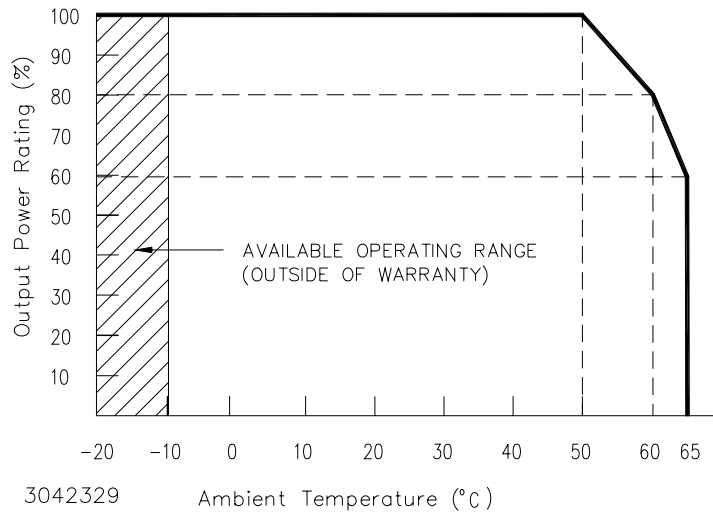

FIGURE 2. POWER RATING VS. TEMPERATURE
<p>(1) Square type. If overcurrent condition continues for approximately 30 seconds, the output is shut OFF. Recovery is by removing and reapplying AC input power, or by reset (open and close) at RC terminal.</p> <p>(2) When overvoltage is detected, output is shut OFF. Recovery is by removing and, after about 40 seconds, reapplying AC input power, or by reset (open and close) at ±RC terminals (no delay).</p> <p>(3) Ripple and noise specifications are within 1.5 times the indicated values for a temperature range of -10 to 0°C. Ripple and noise levels above are satisfied when conditions are 0 to 100% load, 0 to 65°C (derated from 50 to 65°C per Figure 2), and bandwidth ≤ 100MHz.</p>
Operating Temperature:	-10 to 65°C (see Figure 2)
Startup Temperature	-10 to -20°C (see Figure 2)